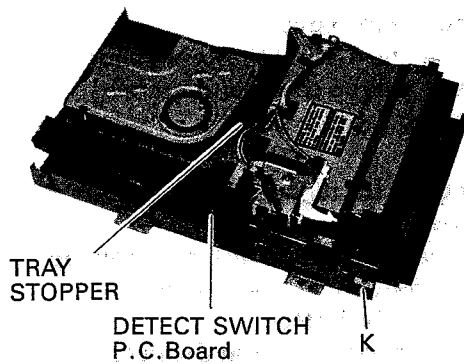

Fig. 5
(6) Removing the MAGAZINE HOLDER (Fig.5,6)